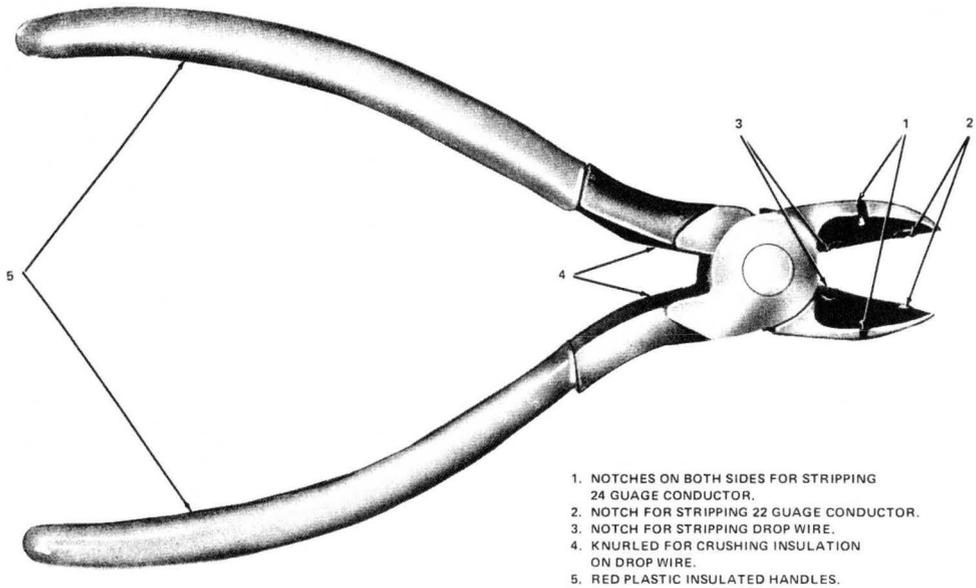

Fig. 8—Recommended Tool for Skinning Insulation From Conductors
6.01 The recommended method for skinning the insulation from individual conductors is with the 6-inch diagonal pliers (see Fig. 8). The new